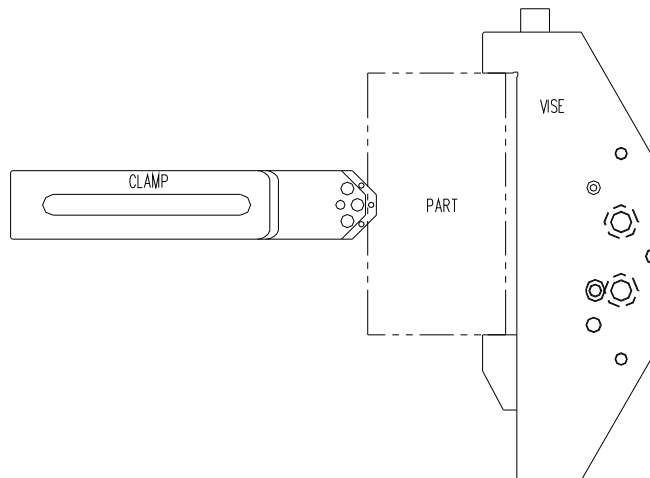

Figure 7
STEP 8. Leveling using three-point truing. (A). Place the indicator onto the work piece next to any of the extendible toe clamps and zero set the indicator. **(B).** Move the indicator to the second extendible toe clamp and adjust the adjustment screw(s) until the indicator returns to zero. **(C).** Move the indicator to the third extendible toe clamp and adjust the adjustment screw(s) until the indicator reads zero. The part should be level. If not, repeat **8A-C** until level.
STEP 9. If the extendible toe clamp is used with another work holder, the work piece should be trued first in the work holder. After the part is trued, the extendible toe clamp can be used for additional support as shown in Fig. 7.